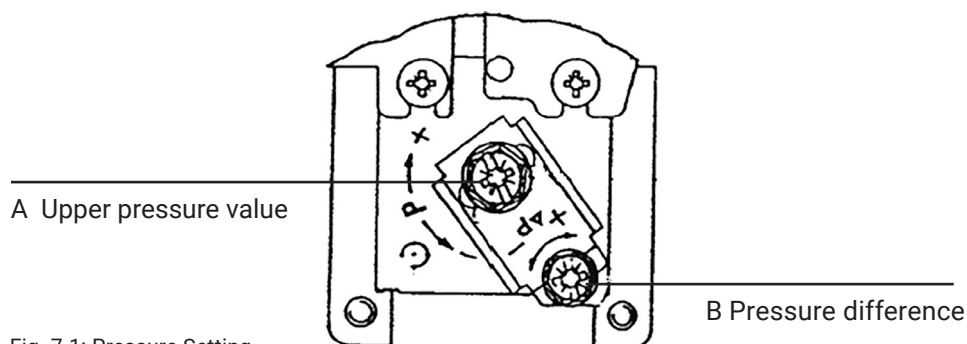

Fig. 7-1: Pressure Setting
- Using a screwdriver, turn the pressure value screw A anticlockwise or clockwise to adjust the switch-off pressure. (see Fig. 7-1).